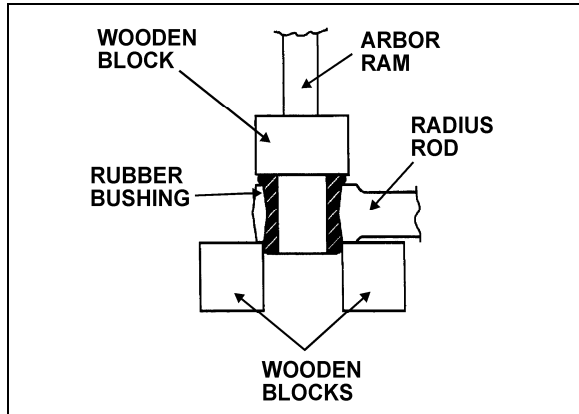

FIGURE 7: RADIUS ROD BUSHING INSTALLATION 16012
2. Safely support the radius rod, and place new bushing on top of the radius rod end (Fig. 7).